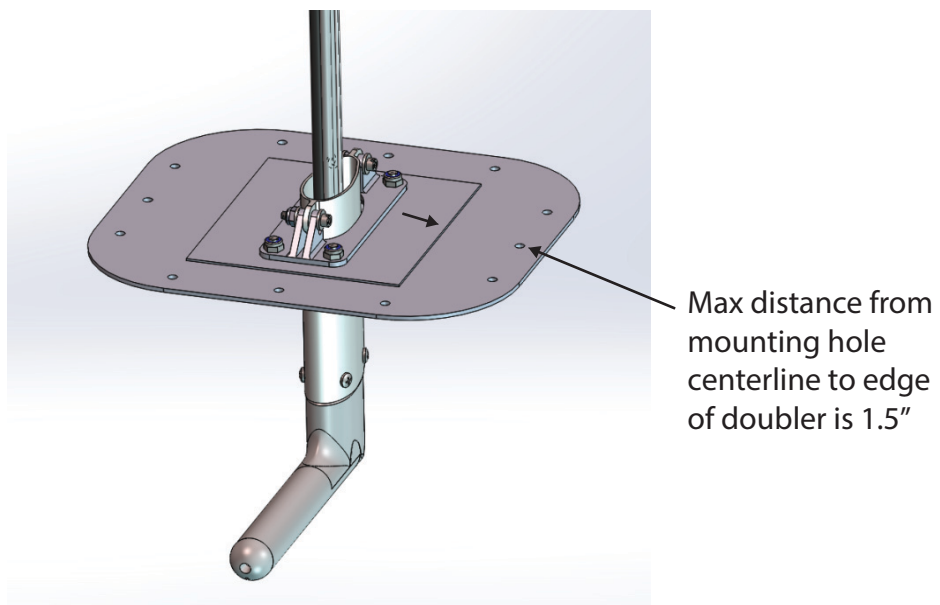

Figure 5-3. GAP 26 Shown with Inspection Panel and Doubler Plate
- If a doubler plate is required for the installation, refer to AC 43.13-1B, Chapter 4 for appropriate fabrication and riveting methods. The doubler plate perimeter should be no further than 1.5" from the centerline of the inspection panel mounting screws (see Figure 5-3).